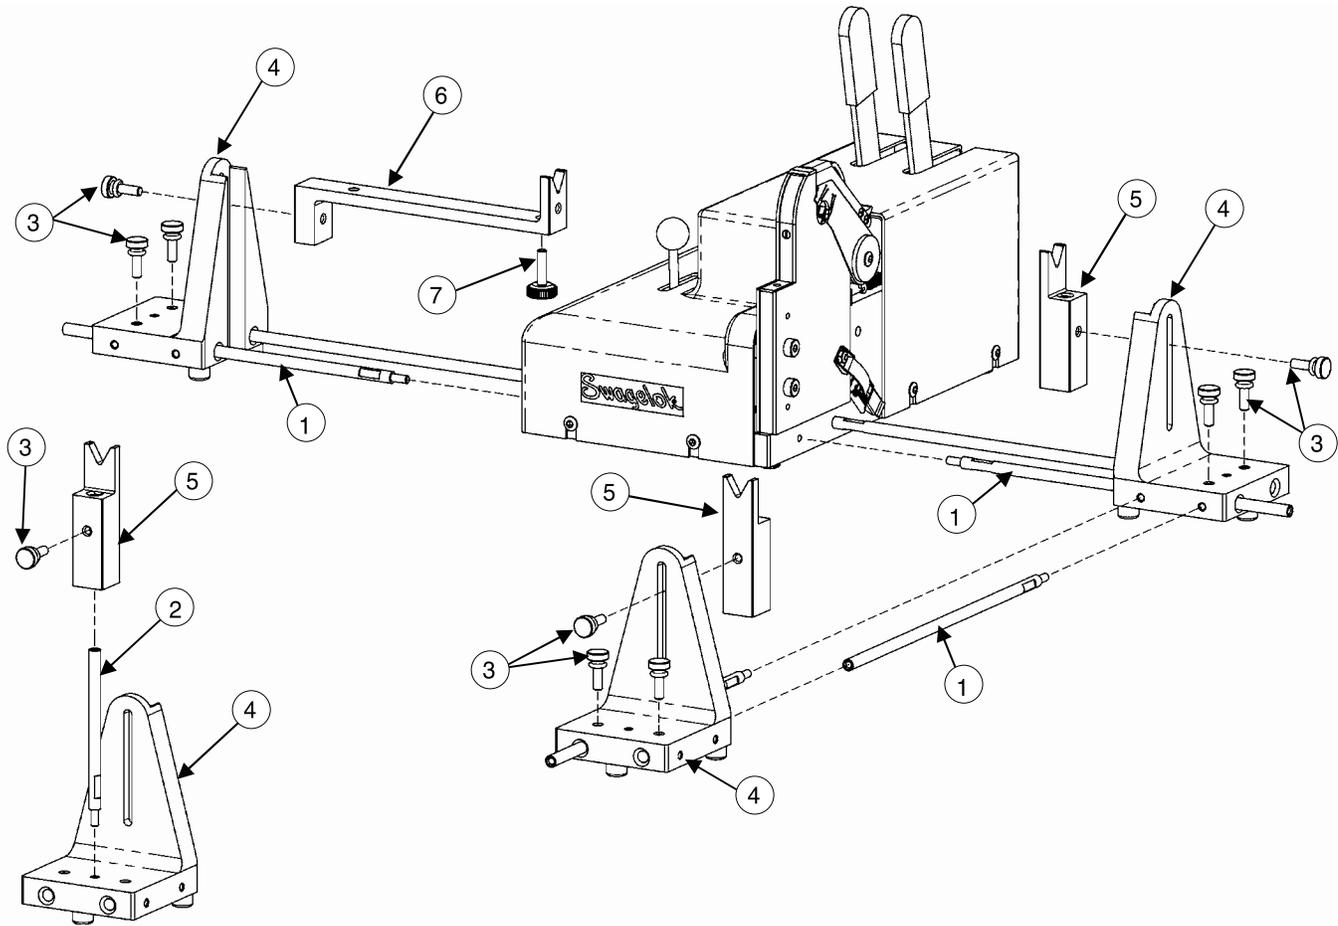

Figure 63 Work Support System
1. Attach the 8 in. work support rails to the series 8HPH weld head unit. See Figure 63.